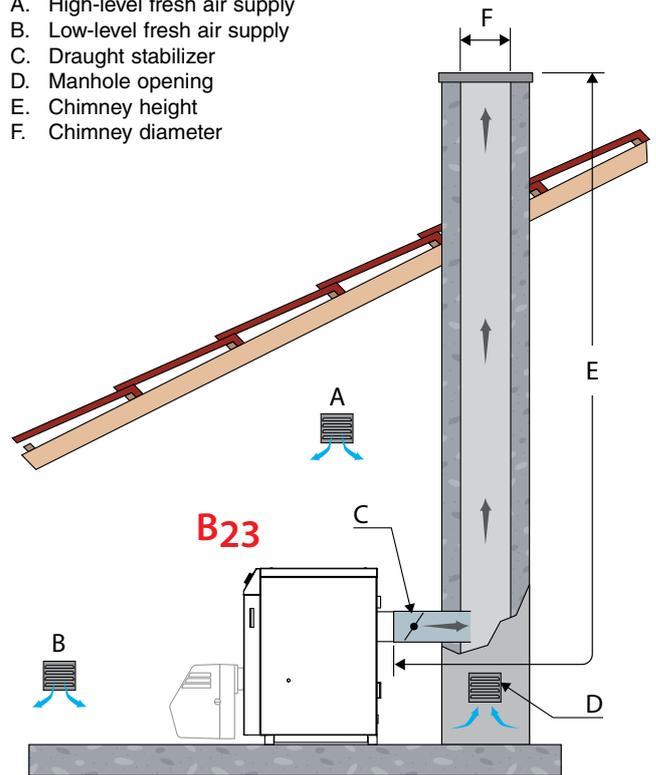

fig. 7
The boiler room must be provided with a high and a low fresh air supply (fig. 7).
**Type of Chimney Connection: B23 (fig. 7)**